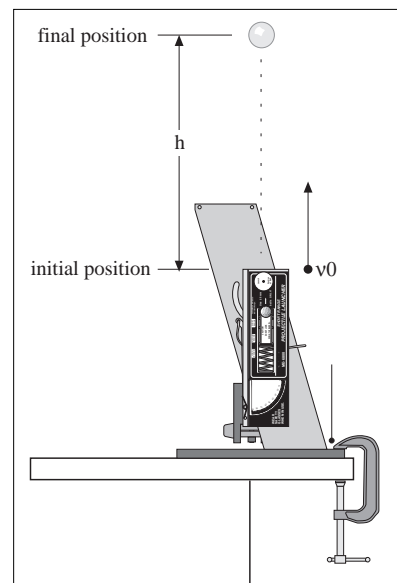

Figure 5.1 Conservation of Energy
The total mechanical energy of a ball is the sum of its potential energy (PE) and its kinetic energy (KE). In the absence of friction, total energy is conserved. When a ball is launched straight up, the initial PE is defined to be zero and the $KE = \frac{1}{2}mv_0^2$, where m is the mass of the ball and v_0 is the muzzle speed of the ball. See Figure 5.1. When the ball reaches its maximum height, h , the final KE is zero and the $PE = mgh$, where g is the acceleration due to gravity. Conservation of energy gives that the initial KE is equal to the final PE.
- ① Clamp the Projectile Launcher to a sturdy table near one end of the table with the launcher aimed away from the table. See Figure 5.1.
- ② Point the launcher straight up and fire a test shot on medium range to make sure the ball doesn't hit the ceiling. If it does, use the short range throughout this experiment or put the launcher closer to the floor.